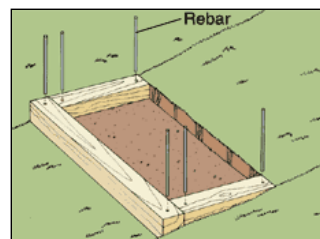

Figure 4
**STEP 4.** Prepare materials by cutting the timbers to the appropriate length. For each step, cut one riser timber as long as the step width and 2 timbers as long as the step depth for the side timbers (remember that each step should extend 6" past the next step's riser.) Drill  $\frac{1}{2}$ " diameter holes approximately 6" from the ends of each timber (figure 4).
**STEP 5.** Position the timbers in the step and remove or add soil as needed to level them (figure 4).
**STEP 6.** Anchor the timbers by driving the steel rebar through the drilled holes on the end of each timber and into the ground. Make sure the rebar is level with the timber surface or slightly recessed since the edges may be sharp (figure 4).
**STEP 7.** Shovel out the soil inside the step to create a surface roughly level with the bottom of the timbers. Additional soil can be removed to provide more area for infiltration if desired. Make sure to dispose of excavated soil in a place where it will not wash away (figure 4).